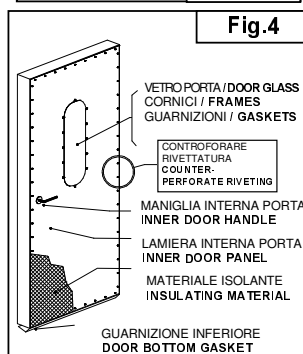

Fig.4
- Staccare la lamiera interna porta ed accedere al materiale isolante **Fig.4**
-Detach the inside panel of the door and remove the insulating material **Fig. 4**.